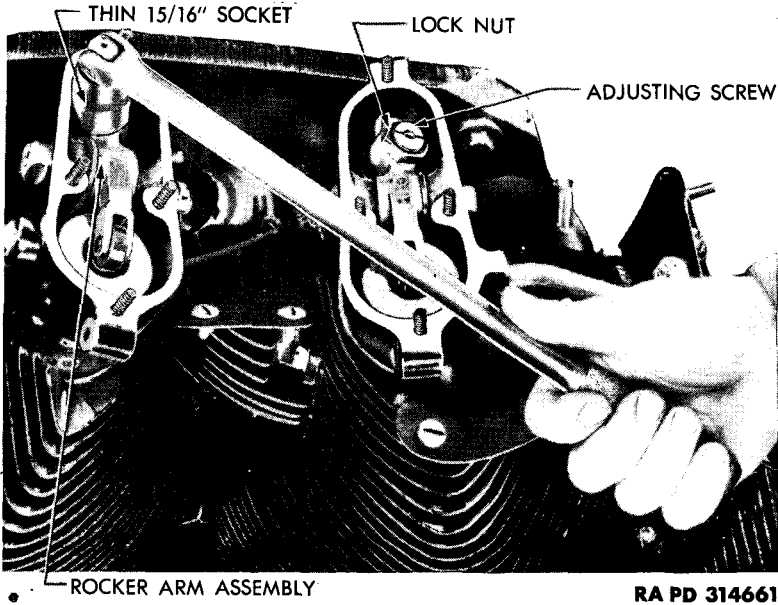
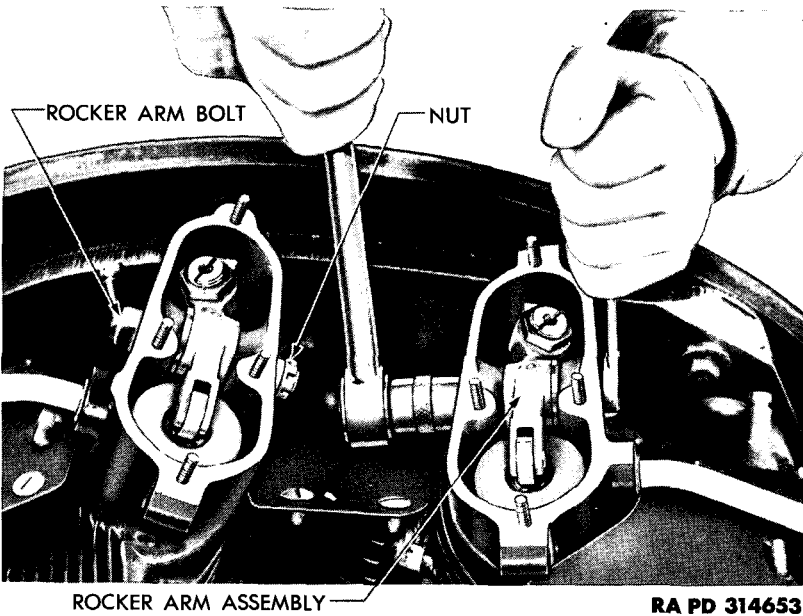

Figure 45 – Loosening Rocker Arm Adjusting Screw Lock Nut
Figure 46 – Removing Rocker Arm Hub Bolts
g. Remove Rocker Arm Assemblies. Make sure valve being worked on is in closed position, or rotate crankshaft with timing bar (par. 73 m), until valve is in closed position. Break loose all rocker arm adjusting screw lock nuts (fig. 45). Pull cotter pin from rocker arm hub bolt nut. Holding bolt head (fig. 46), remove nut and washer. Slide bolt and washer from rocker box. Lift out rocker arm assembly. Remove other rocker arm assemblies in same way.